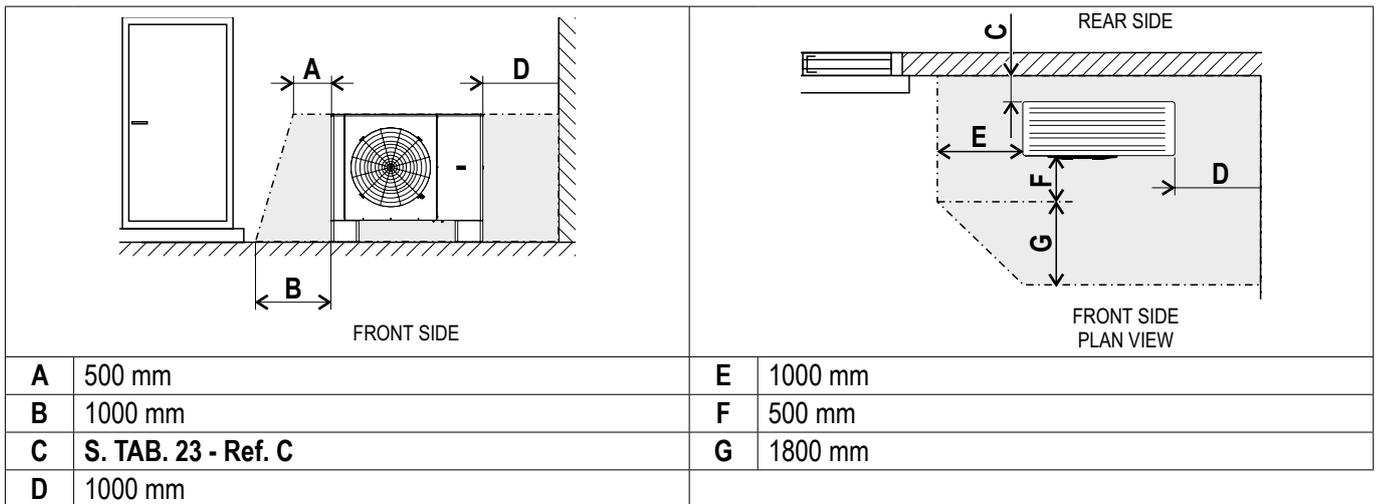

FIG. 37 (Safety zone for ground installation in a building corner)
TO PREVENT THE TRANSMISSION OF VIBRATIONS ON ADJACENT BUILDINGS, USE CONNECTING LINES TO THE MACHINE WITH A LENGTH OF AT LEAST **0.75 m** (s. **FIG. 37**).
- 1) Unscrew and remove the cover caps (**FIG. 37 - Ref. 3**) from the delivery (**FIG. 37 - Ref. 5**) and return (**FIG. 37 - Ref. 4**) connections
- 3) Install a flexible pipe (**FIG. 37 - Ref. 6**) with a gasket (**FIG. 37 - Ref. 2**) and a shut-off valve in the connection of the heating return to the building
- 4) Install a flexible pipe (**FIG. 37- Ref. 1**) with a gasket (**FIG. 37- Ref. 2**) and a shut-off valve in the connection of the heating supply to the heat pump
- 6) Cover the pipes with insulation (**FIG. 37 - Ref. 7**)